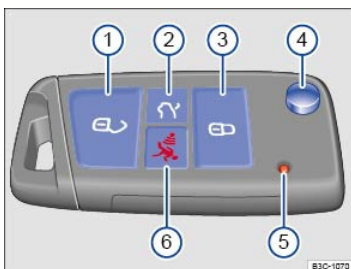

Fig. 55 Remote control vehicle key with panic button.
Key to ⇒ Fig. 55 :
Pressing button → Fig. 55④ releases the key bit and folds it out.
Press the panic button → Fig. 55⑥ only in emergencies! After pushing the panic button, the horn will sound and the turn signals will flash. Press the panic button again or press the  button on the remote control vehicle key to switch off the panic feature.
If the remote control vehicle key buttons ⇒ Fig. 55 or the power locking buttons ⇒ Fig. 58 are pushed repeatedly in quick succession, the power locking system is switched off for a brief period to help keep it from being overloaded. During this period, the vehicle can be unlocked only once. After several seconds, the power locking system is switched back on and the vehicle can be locked again.